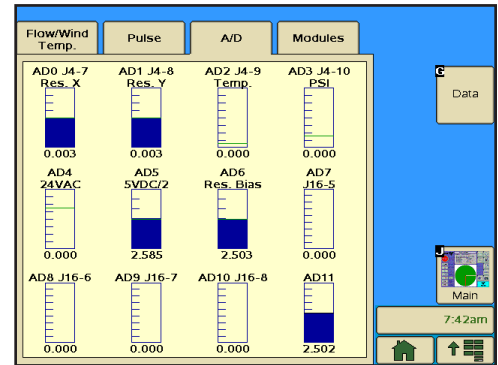

Figure 91-3 1. A/D Tab
- A/D - Review analog to digital voltages for troubleshooting. Refer to Figure 91-3.